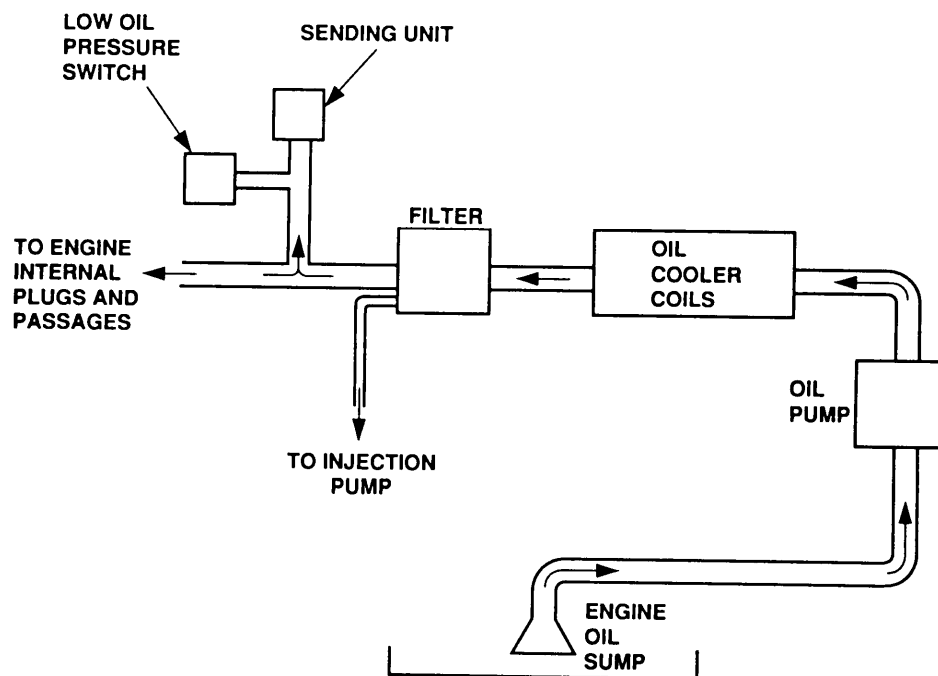

Figure 1-7. Lubrication System Functional Diagram.
1.14.2.5.2 Lubrication System. The lubrication system (figure 1-7) provides lubrication and cooling to the engine's parts. The oil sump has an 8.5 quart (8.04 liter)